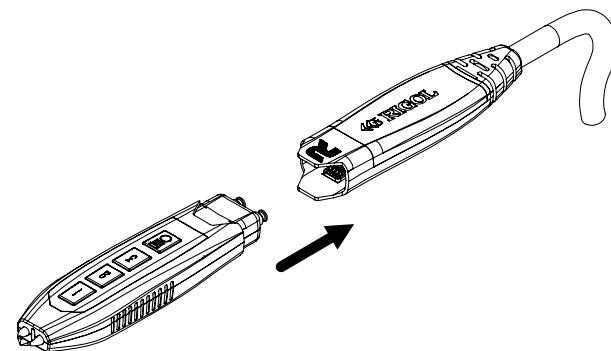

Figure 5.3 To Connect the Probe Head to the PA of the Active Probe
1. Connect the probe head to the preamp of the active probe, as shown in Figure 5.3.